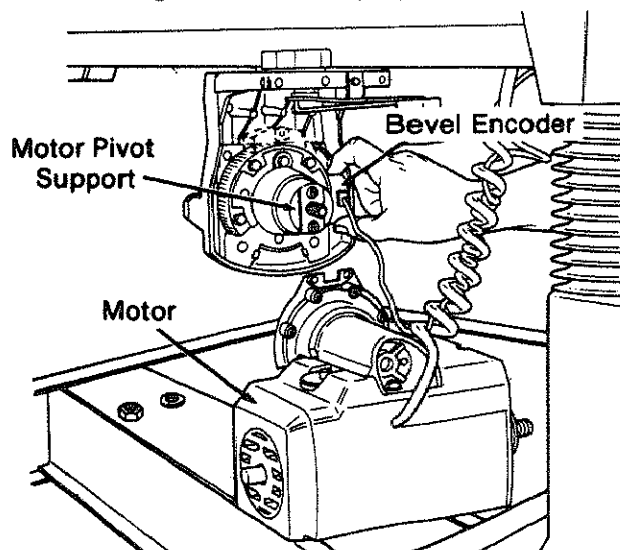

Fig. 67
7. Remove the lock nut and flat washer from the *motor pivot support*. (Figure 67)
8. Slide the *bevel encoder* to the top center position so it will fit into the notch on the *motor support bracket*. (Figure 67)